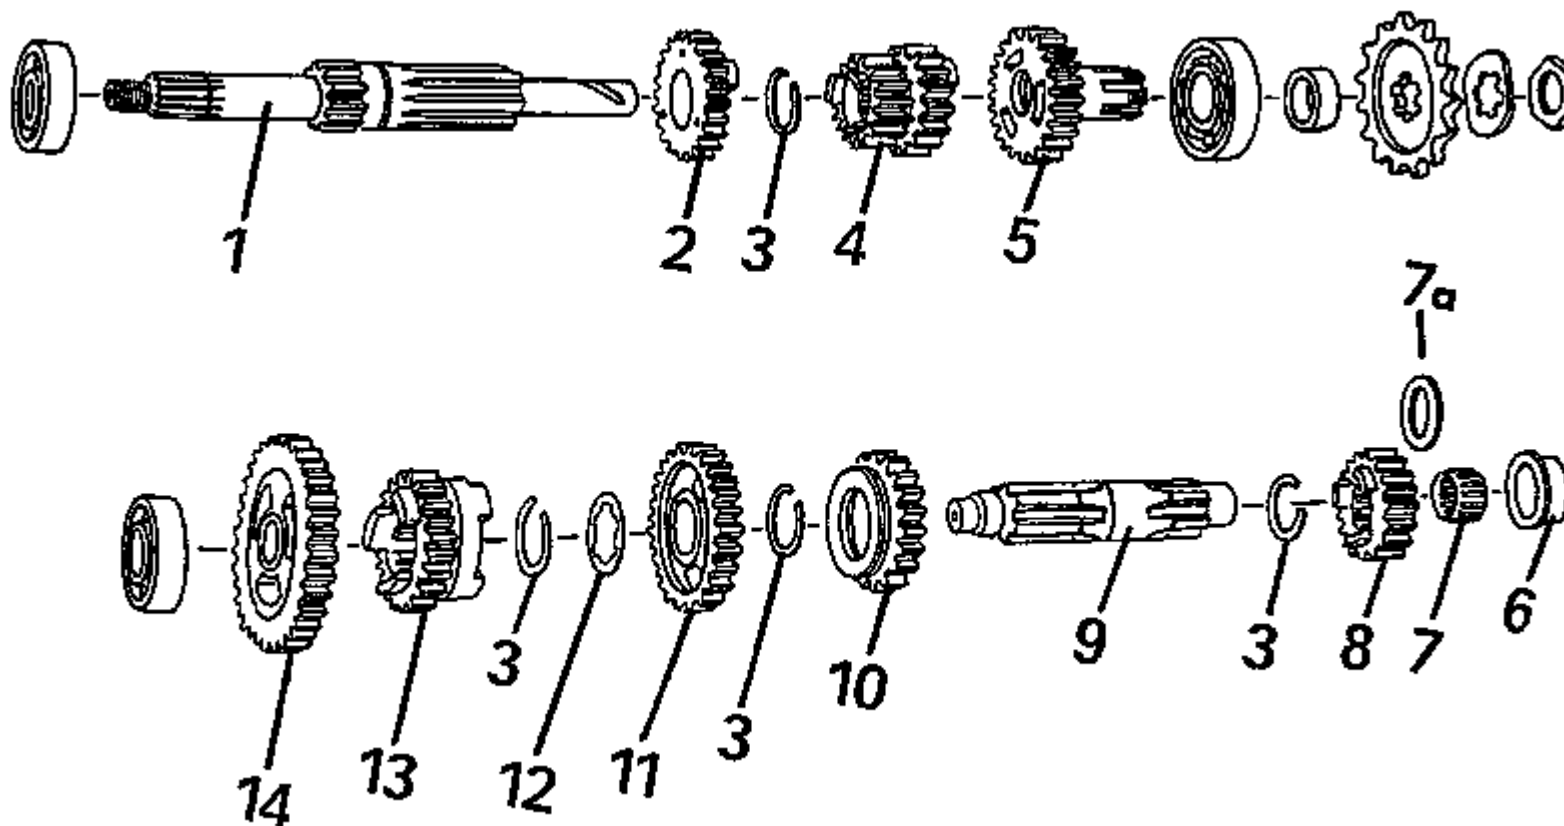

Fig. 41. Exploded view of the gearbox
- Provide the countershaft (1) with the gear of the 2nd speed, fit the circlips and the profile washer (see also Fig. 41) and insert it, with the small bearing pin ahead, through the gear-shift wheel 1st/2nd speeds and gear of 1st speed up to the stop into the bearing 6201. Gear-shift fork (2) (013) is to be inserted into the guide groove of the gear-shift wheel (3) for the 3rd speed and slip the two parts on the countershaft (1). Secure the gear-shift wheel with a circlip.